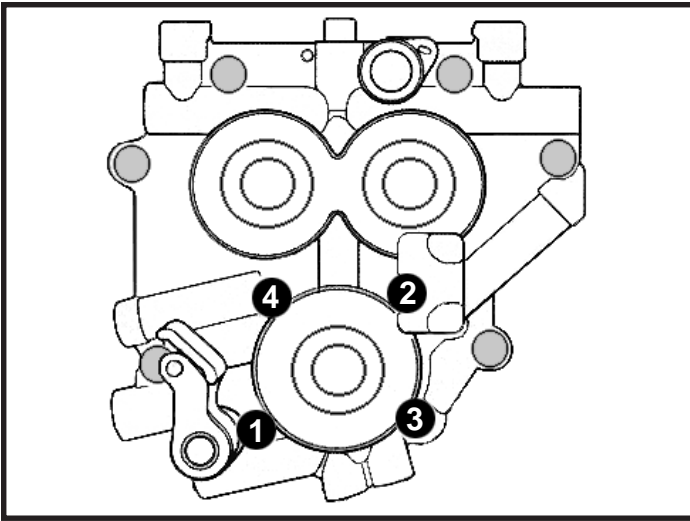
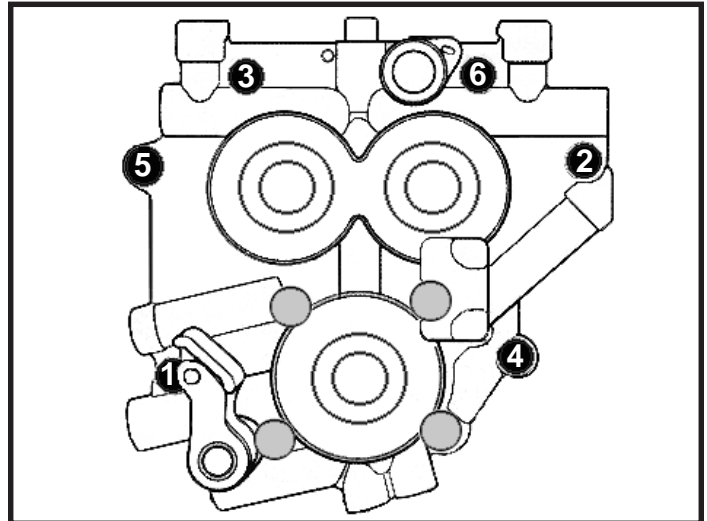

Figure 1
Figure 2
8. Remove chain guide. **See Picture 5.** Gradually loosen and remove four oil pump bolts according to sequence described in "Bottom End Overhaul" section of H-D Twin Cam 88 Service Manual. **See Figure 1.** Gradually loosen and remove six support plate bolts according to sequence described in "Bottom End Overhaul" section of Service Manual. **See Figure 2.**
17. Apply thin layer of assembly lube to cam journals and lobe surfaces. Align cams with needle bearings and carefully slide support plate assembly over crankcase dowels. Apply Loctite 243 to six support plate screws, install screws, and gradually tighten to 95 in-lbs. in sequence illustrated in **Figure 2.**
18. Apply Loctite 243 to threads and reinstall four oil pump bolts according to procedure in H-D service manual: Gently bottom screws, then back out 1/4 turn. Center pump by rotating engine while snugging screws. Tighten bolts to 90-120 in-lbs. in sequence illustrated in **Figure 1.**